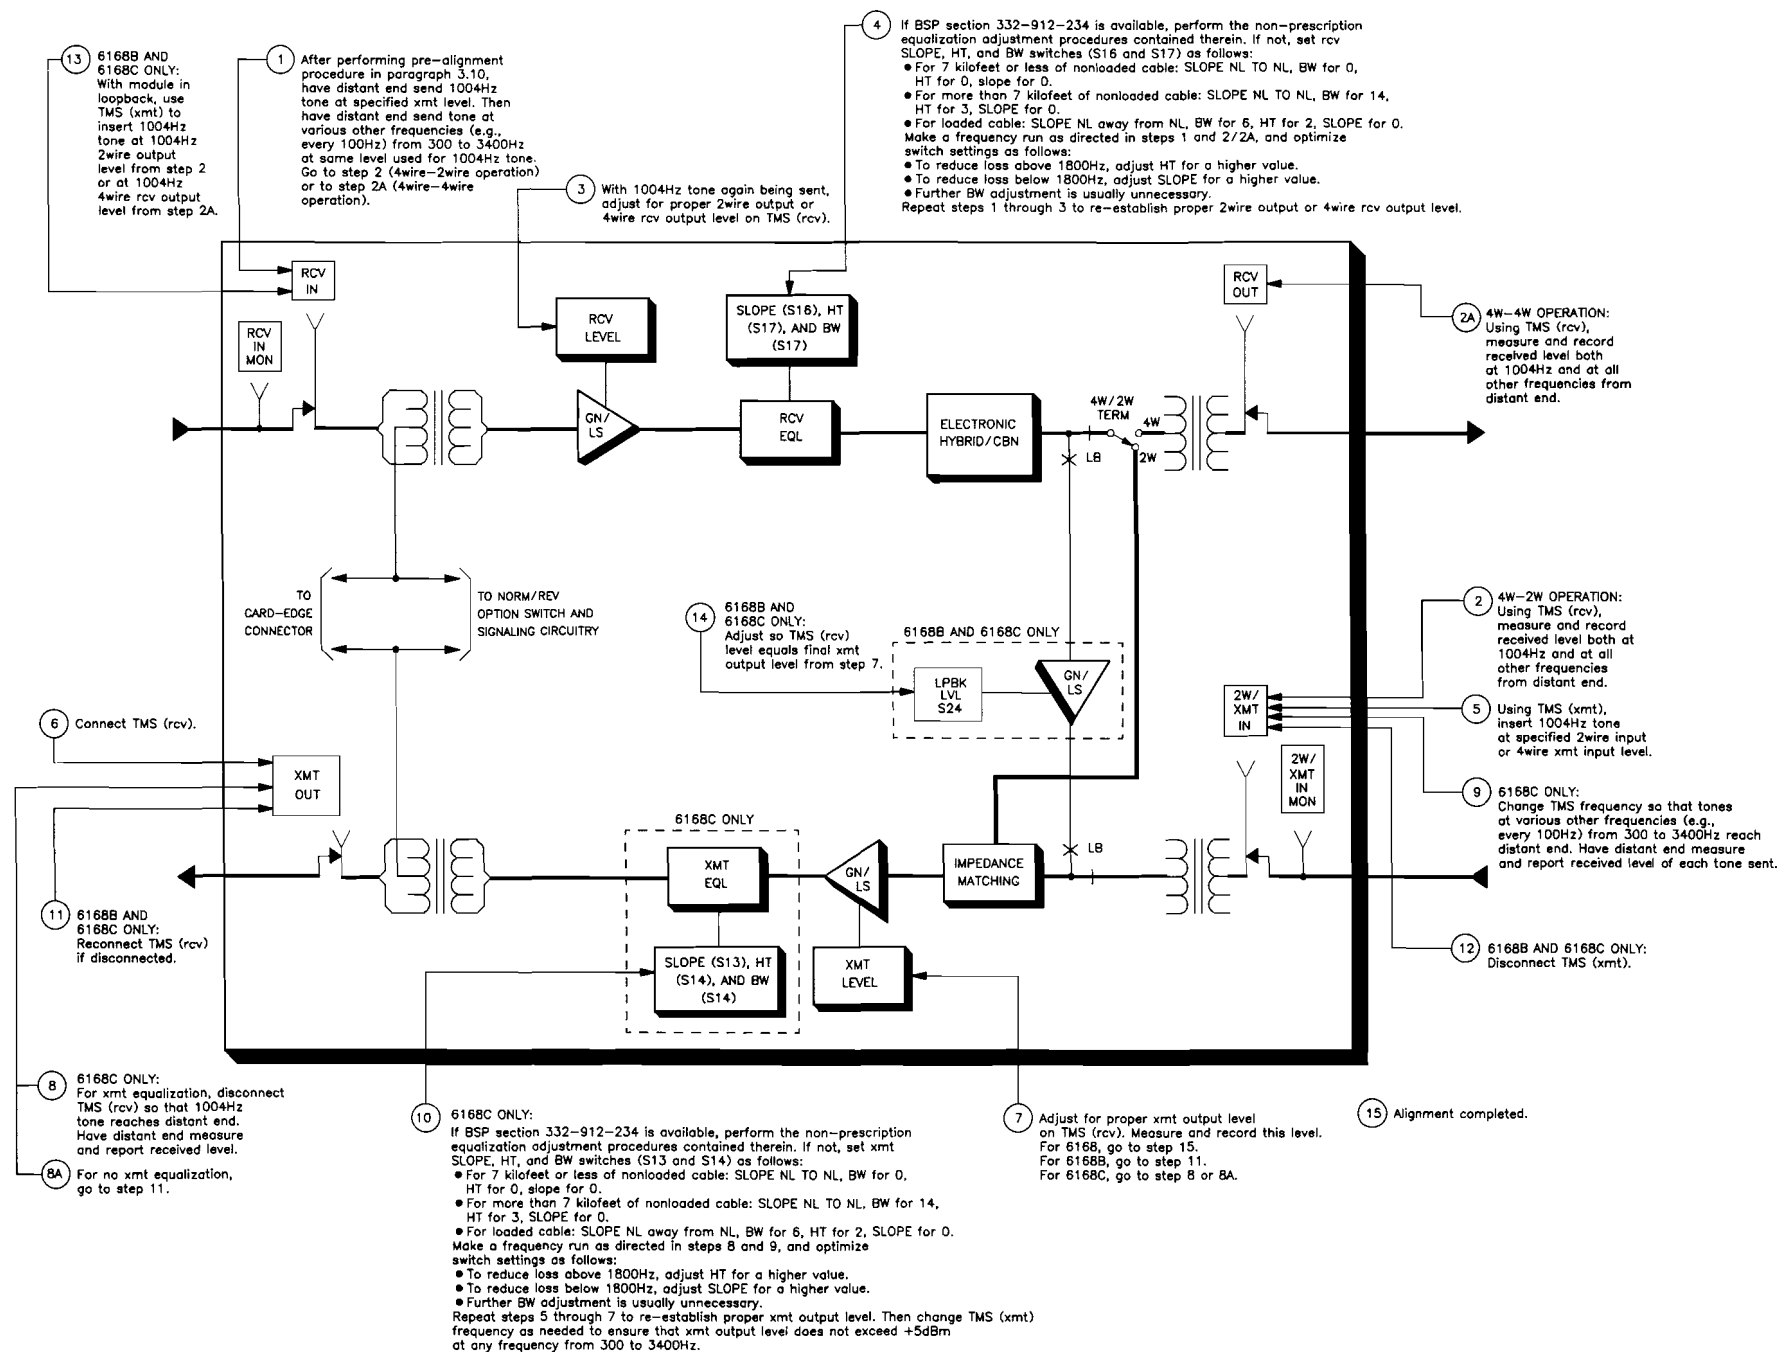

figure 13. Non-prescription alignment procedure for 6168/X
3.11 Align the 6168/X as directed in the non-prescription alignment procedure, figure 13 of this practice.
Note 1: The procedure in figure 13 is based on the assumption that certain required local input and output levels are available from circuit records. If this is not the case, some steps may have to be modified to include end-to-end measurements.